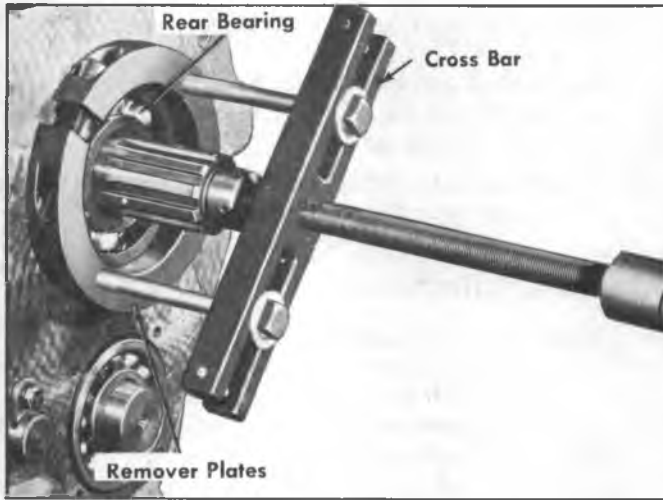

Fig. 3P-Removing Mainshaft Rear Bearing
11. Using a suitable puller, remove mainshaft rear bearing from end of mainshaft (fig. 3P).